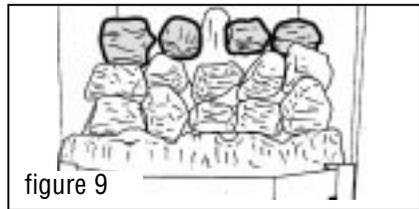

figure 9
- 7 Place two of the remaining coals each side of the central peak at the rear of the base coal and immediately behind the second row of coals. See figure 9.